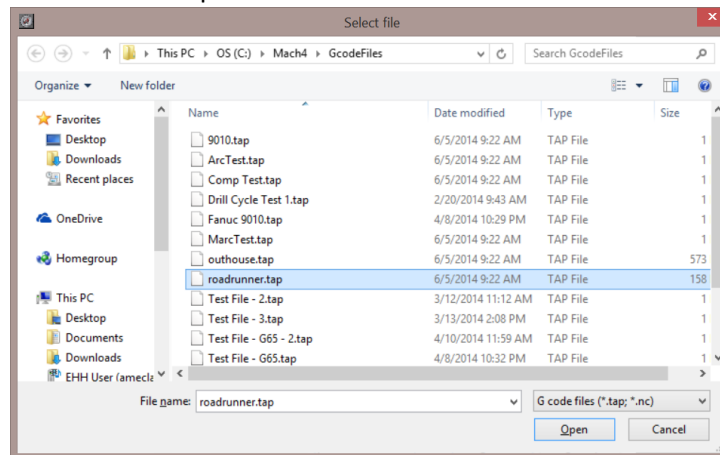

Figure 2-3: Select file
- **Open Gcode File:** Opens the “Select File” dialog, figure 2-3. The user can then navigate to the desired G code file to select and open it in Mach4.